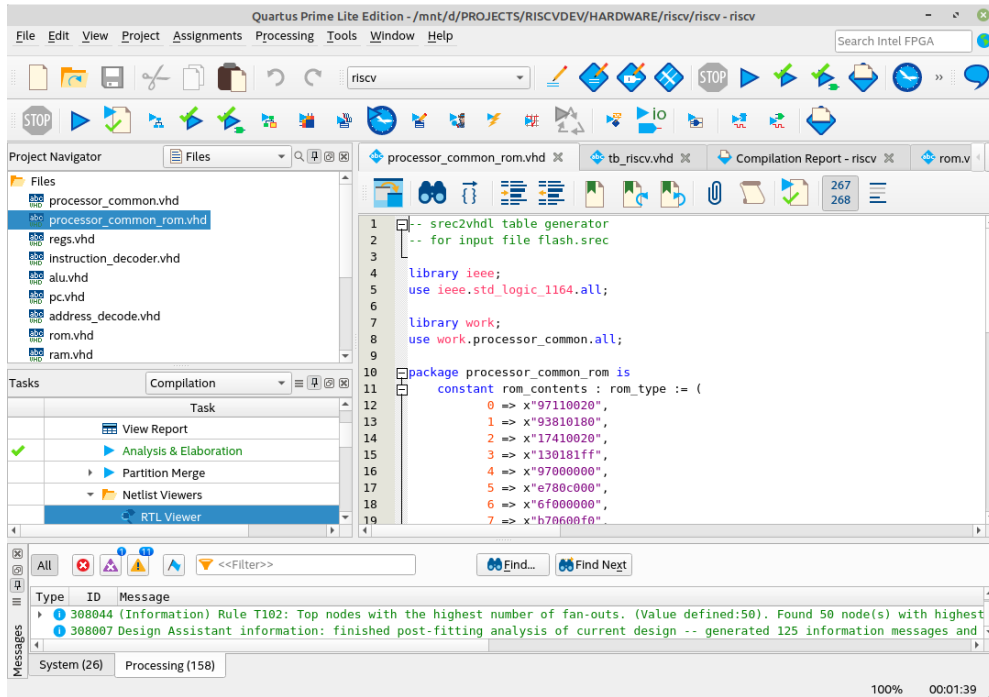

Figure 7: Image of the Quartus project (1).
- Now start the compilation of the VHDL code in Quartus Prime Lite and program the compiled file. This file has the extension .sof. See Figures 7 to 9.